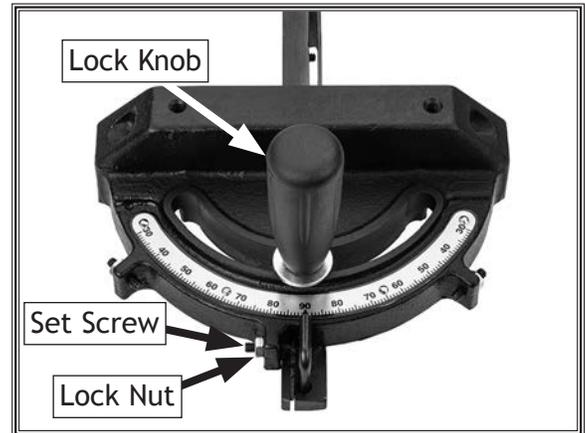

Figure 121. Screws for adjusting miter stops.
3. Loosen miter gauge lock knob, pull out positive stop knob, then pivot miter gauge body to 90° so stop knob springs into position (see **Figure 121**).
The miter bar can be adjusted so it fits more tightly in the miter slot. To adjust the miter bar tightness, adjust the set screws shown in **Figure 121** as needed. Bar should slide with little resistance.